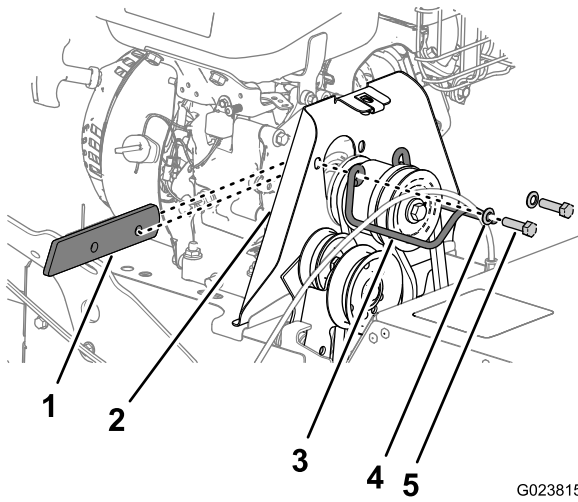

Figure 38
2. Remove the 2 bolts and 2 washers that secure the belt guide to the machine, and remove the belt guide and the spacer (Figure 38).
- Align the spacer between the engine and the pulley shield and align the holes in the spacer, engine, and shield (Figure 38).
- Secure the pulley guide to the machine with the bolts and washers (Figure 38) that you removed in step 2 of Removing the Broom-drive Belt (page 24).